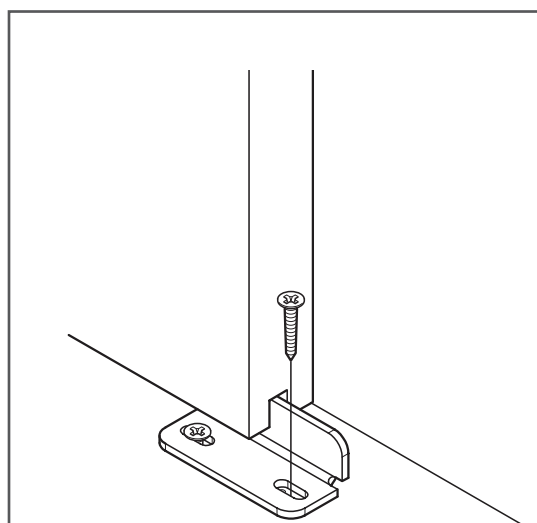

Figure 13
18. Install the second 1" phillips screw (G.) using a drill with a phillips bit (Figure 13).